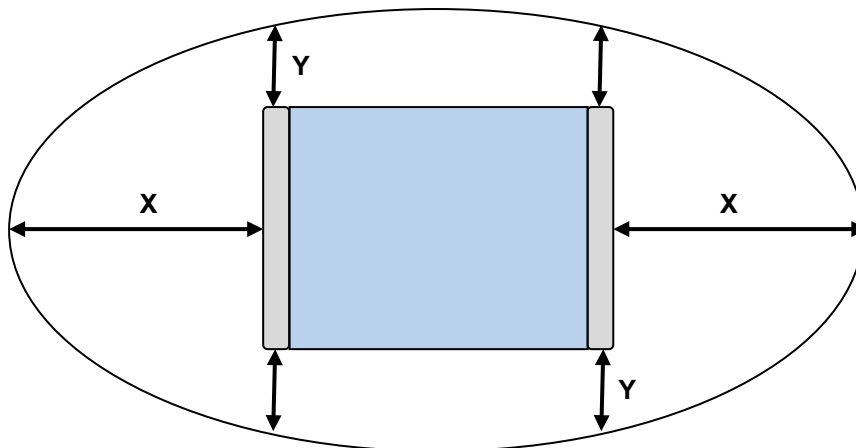

Fig. 11: Top view, detection area outside of the antenna gate
① **NOTE:**
- **Note that the entire reading area of the antenna gate is larger than the three-dimensional area shown in the drawing ( Fig. 11). This means there are tag orientations in which the tag can be detected outside the reading area.**